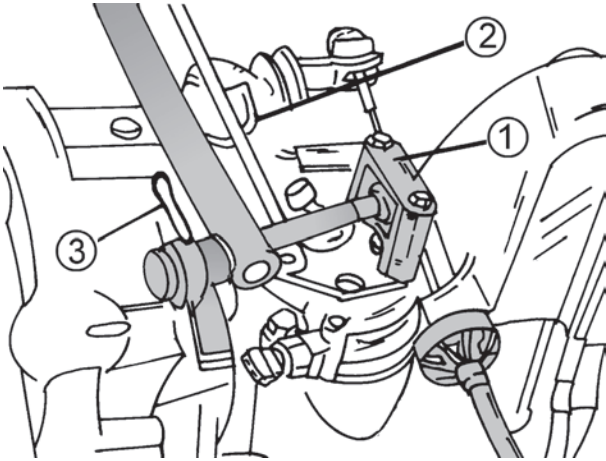

Fig. 1.10. – Disconnecting the actuating unit from the transmission. The numbers are referred to in the text.
- Remove the gear actuating unit as follows, referring to Fig. 1.10. Unscrew the clevis (1) and lever up the gear stick at the front from the gear control lever (2). Unscrew the bearing block with the selector rod (3).